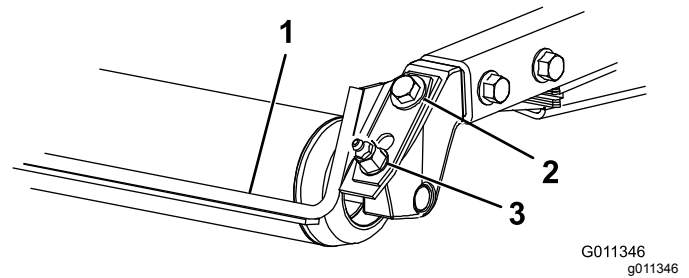

Figure 10
- Loosen the grease fitting and the mounting screw (Figure 10).